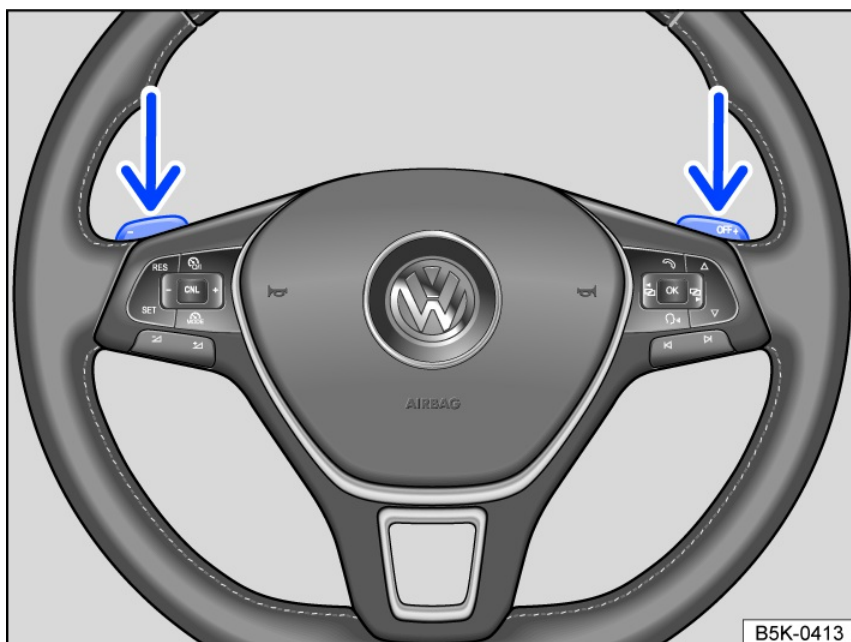

Fig. 103 Steering wheel with shift paddles for Tiptronic.
- Pull the right shift paddle toward the steering wheel to shift up fig. 103.